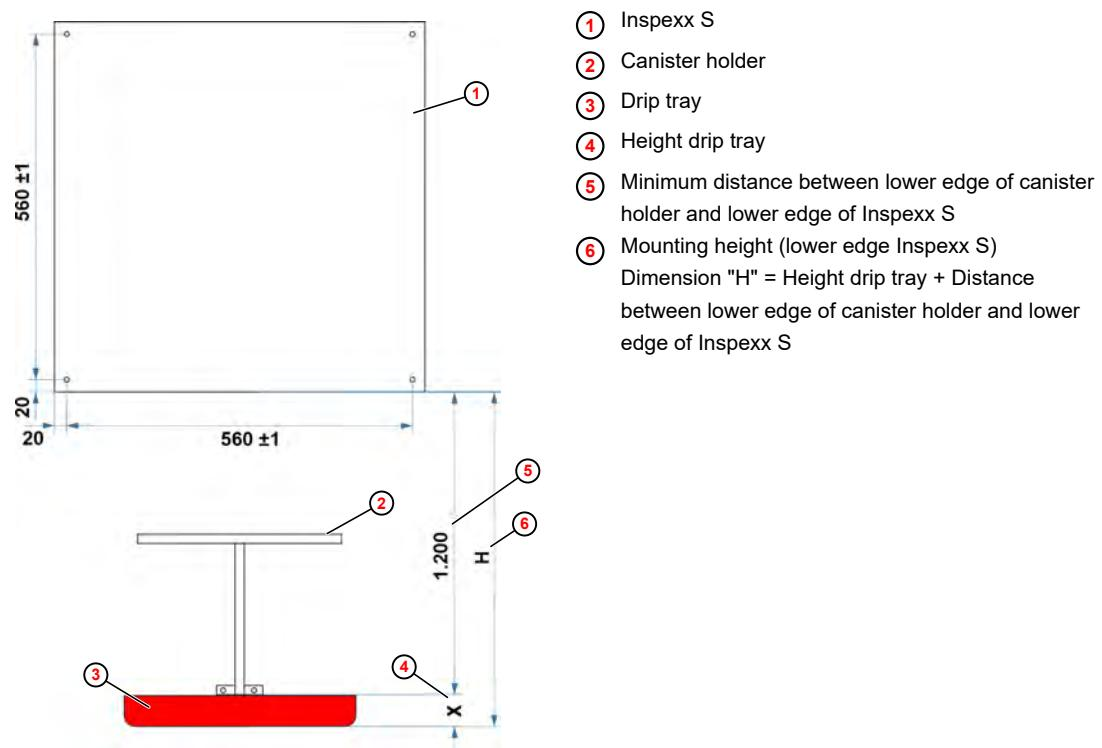

Fig. 4: Wandmontage
1. Prepare the mounting according to the information in Fig. 4 .